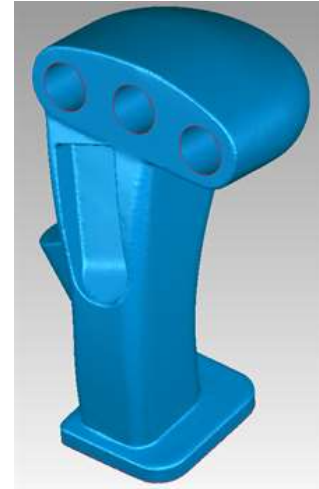

Figure 106
- Remove the checkmark in the checkbox next to **Edges**. The display of triangle edges will be turned off, see **Figure 106**.